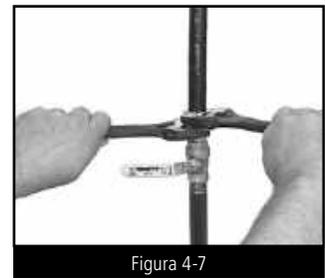

Figura 4-7
PASO 5 AJUSTE CON LLAVE DE TUERCA (FIGURA 4-7)